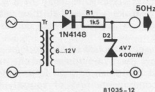

Figure 12. The calibration circuit used to set up the meter.
a. If a speed transducer is used which generates (opto-electronic or inductive) pulses, the calibration circuit shown in figure 12 must be utilised. This will generate 50 Hz pulses and should be connected to the inputs of *both* modules. After the supply voltage